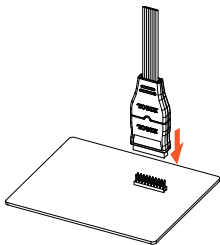

Figure 1
- ◆ Method one: you can connect RPL2316 to the two rows of pins on the device under test directly. At this point, the probe adaptor must be connected as shown in figure 1.